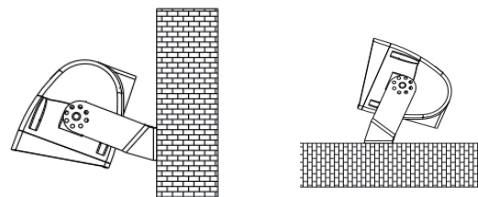

figure 3.2
Step 3 Loosen the screws. Adjust the fixture angle as per actual demands and tighten the screws when complete (figure 3.2).